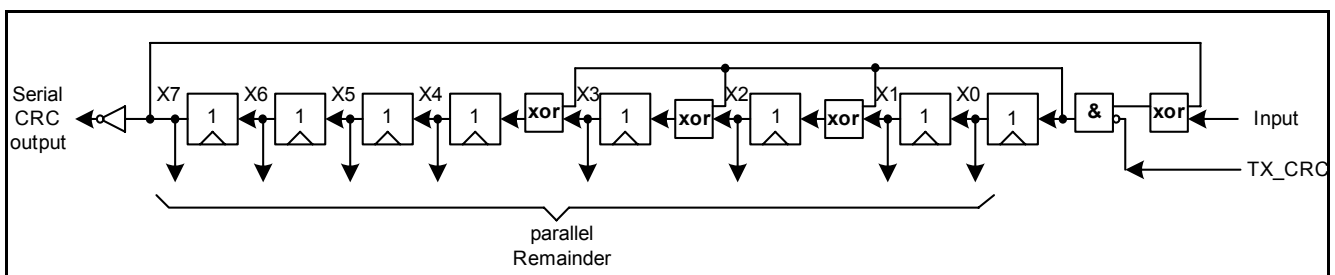

Figure 15 Fast CRC Polynomial Division Circuit
- Generator-Polynomial:  $X^8+X^4+X^3+X^2+1$ , but for the CRC generation the fast-CRC generation circuit is used (see Figure 15)